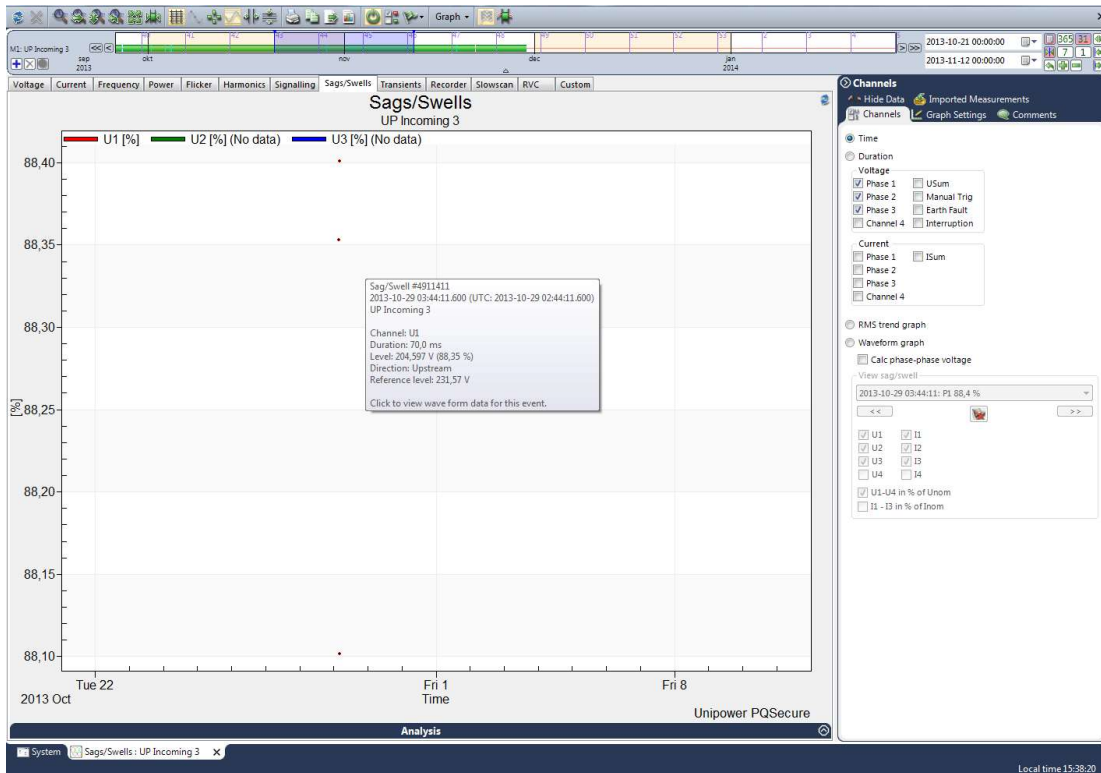

Figure 8
5. Click on the **Refresh** button. A plot with each Sag/Swell event marked as a dot will be displayed (see Figure 8). To get information about a specific event, hover the mouse over a specific event and read the direction of the sag/swell.